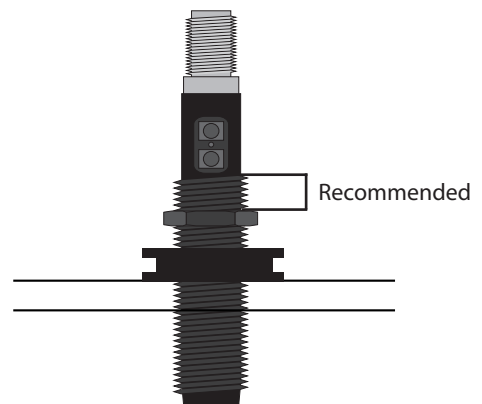

FIG. 3
- 3 Twist the first nut so that it is positioned 0" to 1/4" from the sensor's buttons. Unscrew the plastic lock nut from the bottom of the sensor. Insert the sensor through the installed Rubber Grommet (B). [FIG 3].